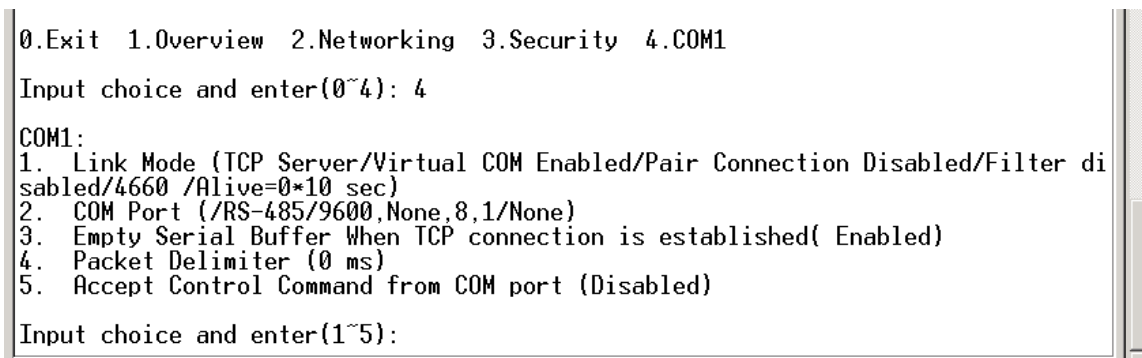

Figure 3.9 Com1 setup
- Select **4** from **Input choice and enter (0~4)**: the following screen appears: (Figure 3.9)